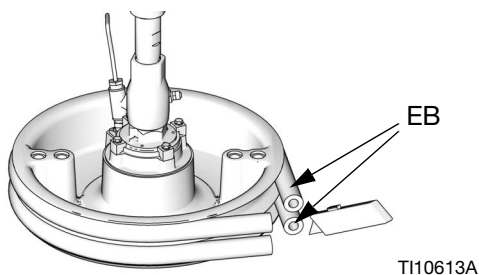

FIG. 33
2. Turn the Power Junction Box Switch (AK) and the Disconnect Switch (AZ) OFF.
3. To replace worn or damaged Wipers (EB), raise Platen up out of drum. Remove drum from base. Wipe fluid off of Platen.
4. Cut the Wiper(s) (EB) with knife and remove from Platen. See FIG. 33.